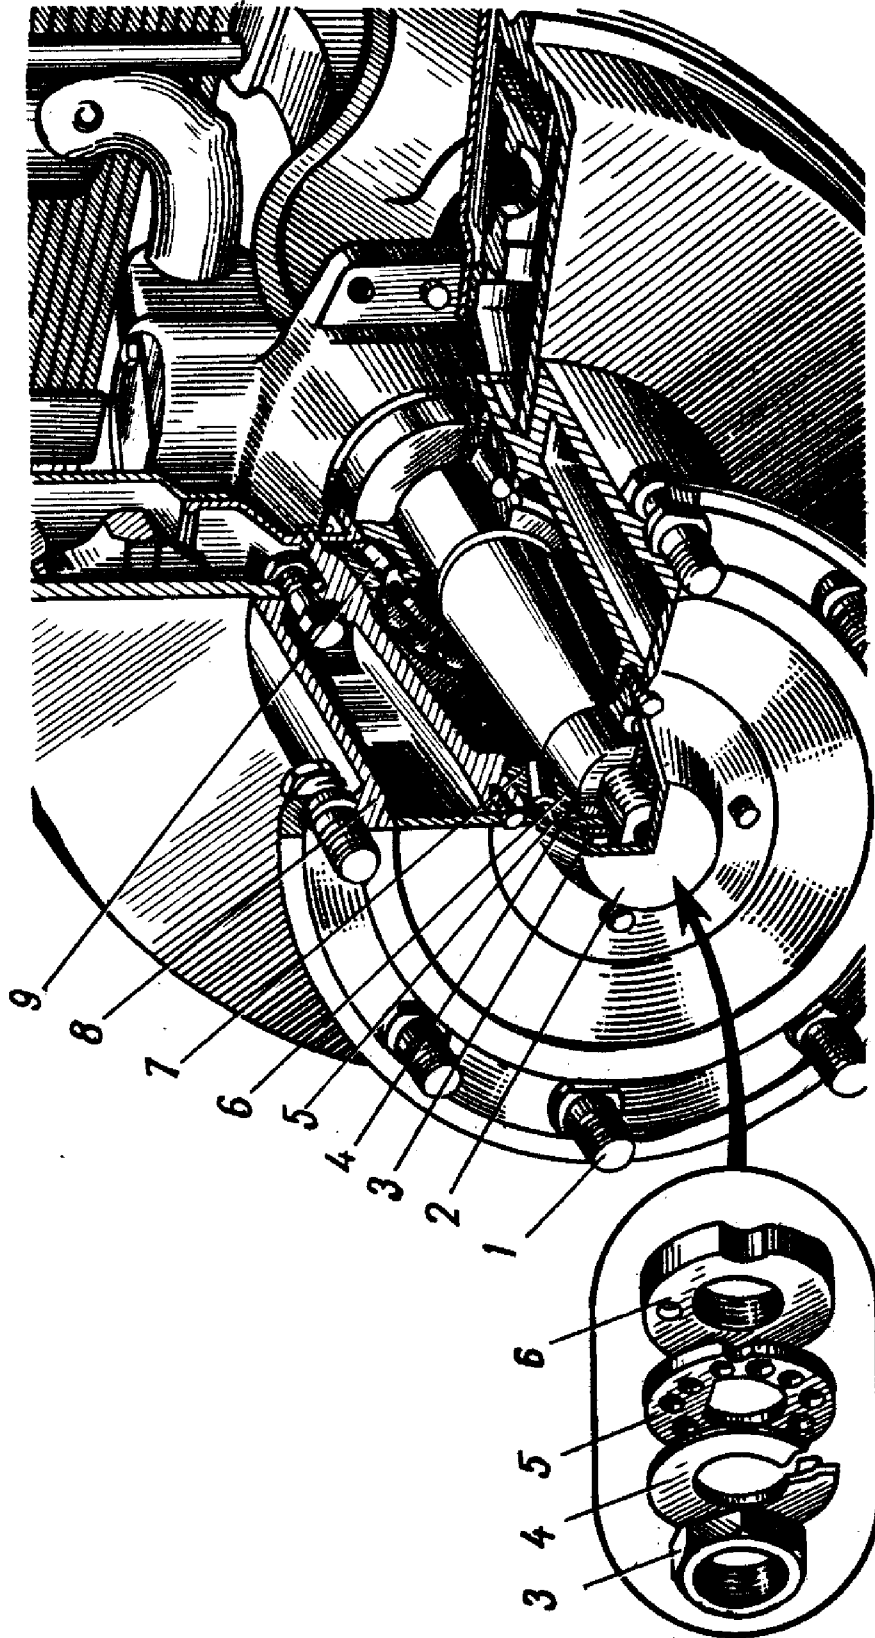

FIG.56. FRONT WHEEL HUB OF 3MJ-130 TRUCK
1. Unscrew the bolts holding hub cap 2 (Fig.56) and remove the cap.